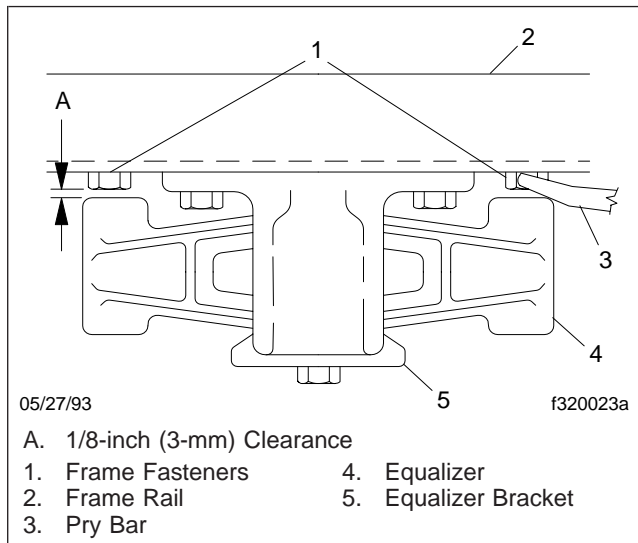

Fig. 4, Top View of the Equalizer
2. With the vehicle unloaded, attempt to move the equalizer side to side using a pry bar between the equalizer and frame rail. Apply hand pressure only. See Fig. 4. If clearance between the equalizer assembly and any frame component or fastener is less than 1/8 inch (3 mm), replace the equalizer bushings.